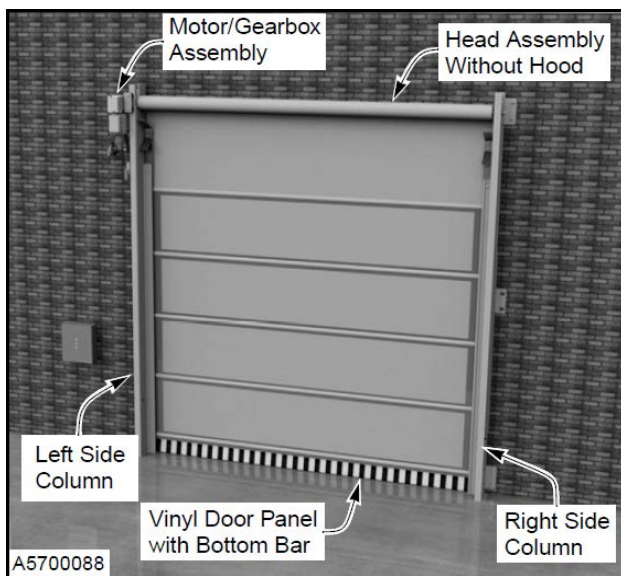

Figure 69
**NOTE:** Your **DOOR SERIAL NUMBER** information can be found on the control box/motor assembly, side columns, hood, and drum assy. (See Figure 69.)